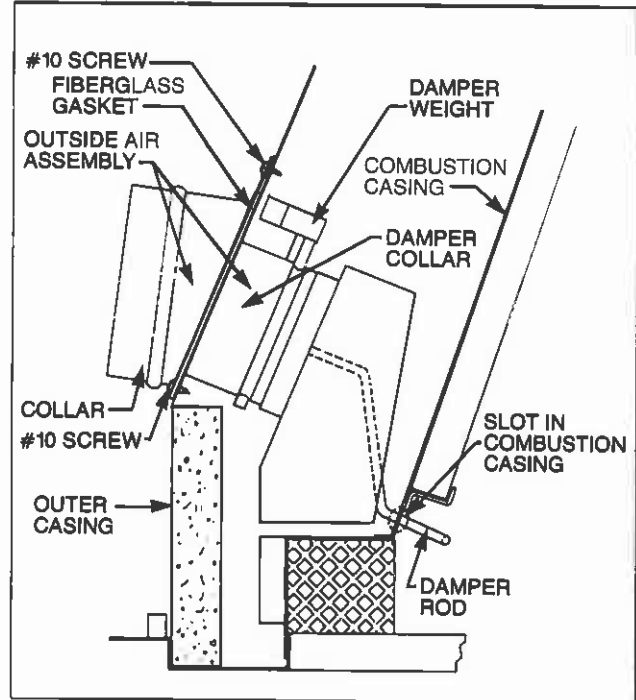

Fig. 4 Mounting damper assembly.
2. You are ready to install the outside air assembly. Install fiberglass gasket to the inner face of the outer plate. Rotate the assembly to insert the damper rod through the slot on the front left side of the combustion casing. **NOTE: Damper weight will be positioned on the back side of the damper collar when assembly is installed correctly (see Fig. 4).** Push outer plate inward to compress gasket tightly against outer casing. Fasten in place with four (4) #10 screws into the prepunched holes in the outer casing.
4. You are now ready to install the ducting to the collar on the outside air assembly. Attach the duct to the collar using three (3) screws (screws not provided). Continue attaching the ducting together using three (3) screws at each joint until you have installed sufficient duct to arrive at your duct termination location.